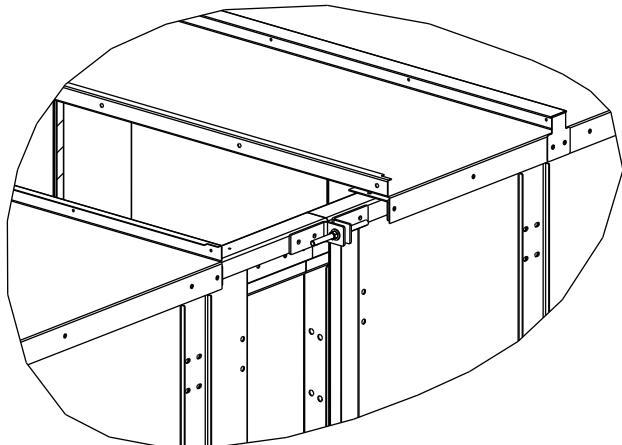

Fig. 56 — Top Rail Brackets
11. Attach (4) brackets to top rails. Using $\frac{3}{8}$ -in. x 6-in. threaded rods, nuts, washers and backing plates provided, pull the top rails together and secure with top rail guide from Step 5. See Fig. 56. Remove threaded rods and brackets after securing top rail guide.